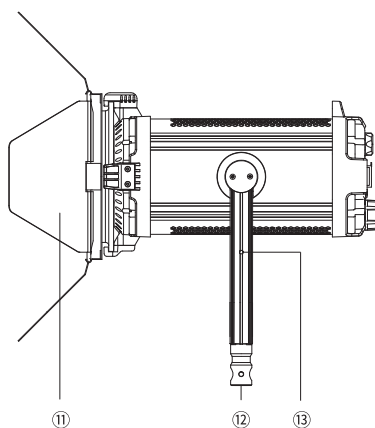

Fig.4 FL-C100 Side View
Before use, please install the barn door and honeycomb according to the requirements. When lifting and using the lamps, please pass the safety rope (hereafter referred to as "safety rope") through the hanging ring and the bracket(Hanging ring need to be installed in Fig.4⑬).